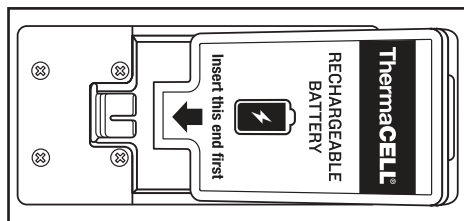
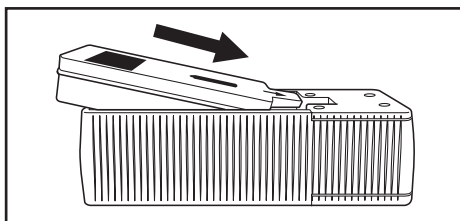

Figure 3
Figure 4
- 3.3. Gently place the battery inside the Smart Charging Case with the foam side facing up, so the battery connector is facing the red Smart Charging Case connector (Figure 3). The battery will be at a slanted position at this point (Figure 4).